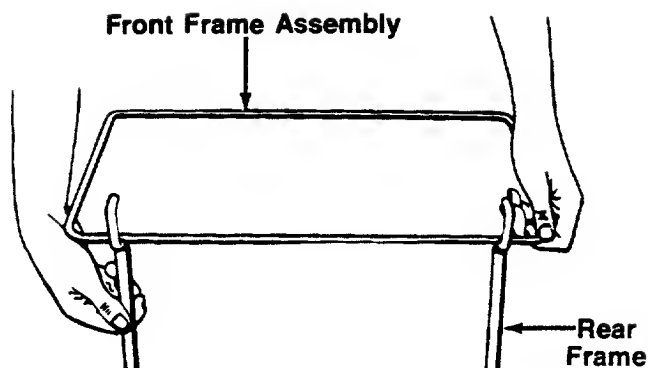

FIGURE 12.
1. Join the rear frame and front frame assembly as shown in figure 12.